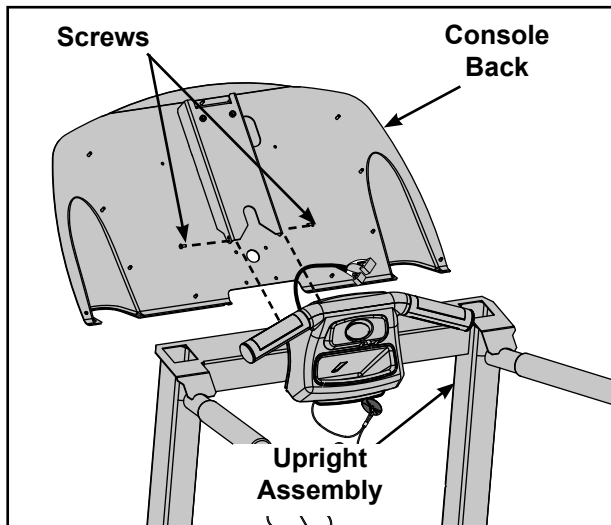

Figure 29
- Using a Phillips screwdriver, remove the two screws that secure the console back in place. See Figure 29.
- Using a Phillips screwdriver, install the two screws that secure the console back in place. See Figure 29.
- C. Using a Phillips screwdriver, install two screws to hold the console back in place. Do not fully tighten at this time. See Figure 29.